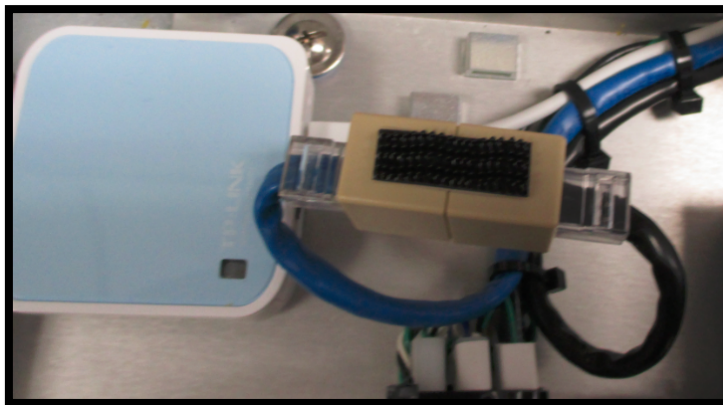

Figure 53: Plug Cables into Ethernet Union
3. Plug the black cable into either port of the Ethernet union. (Figure 53)
4. Plug the blue cable into the other port of the Ethernet union. (Figure 53)